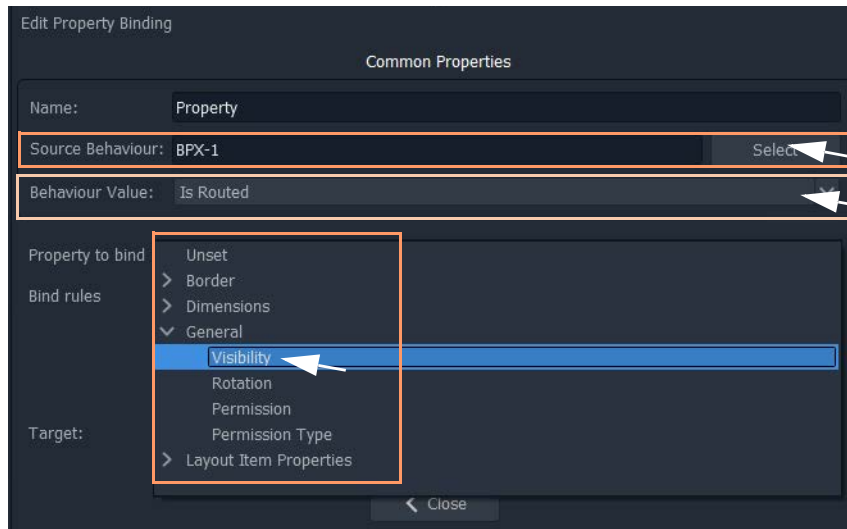

Fig. 14-62: Added Property Binding
- 6 Change the following **Property** Binding property values: (See Figure 14-62.)